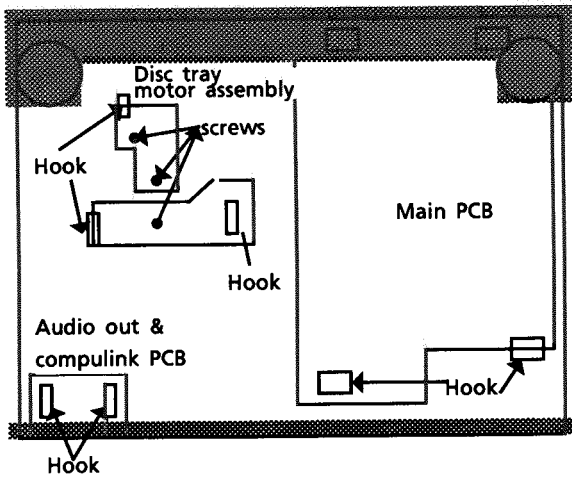

Fig 8 Bottom view
6. Remove the 2 screws, and remove the disc tray motor assembly(Fig. 8).
5. Remove the hooks fixing the PCB(Fig. 8).
5. Remove the hooks fixing the main PCB (Fig. 8).